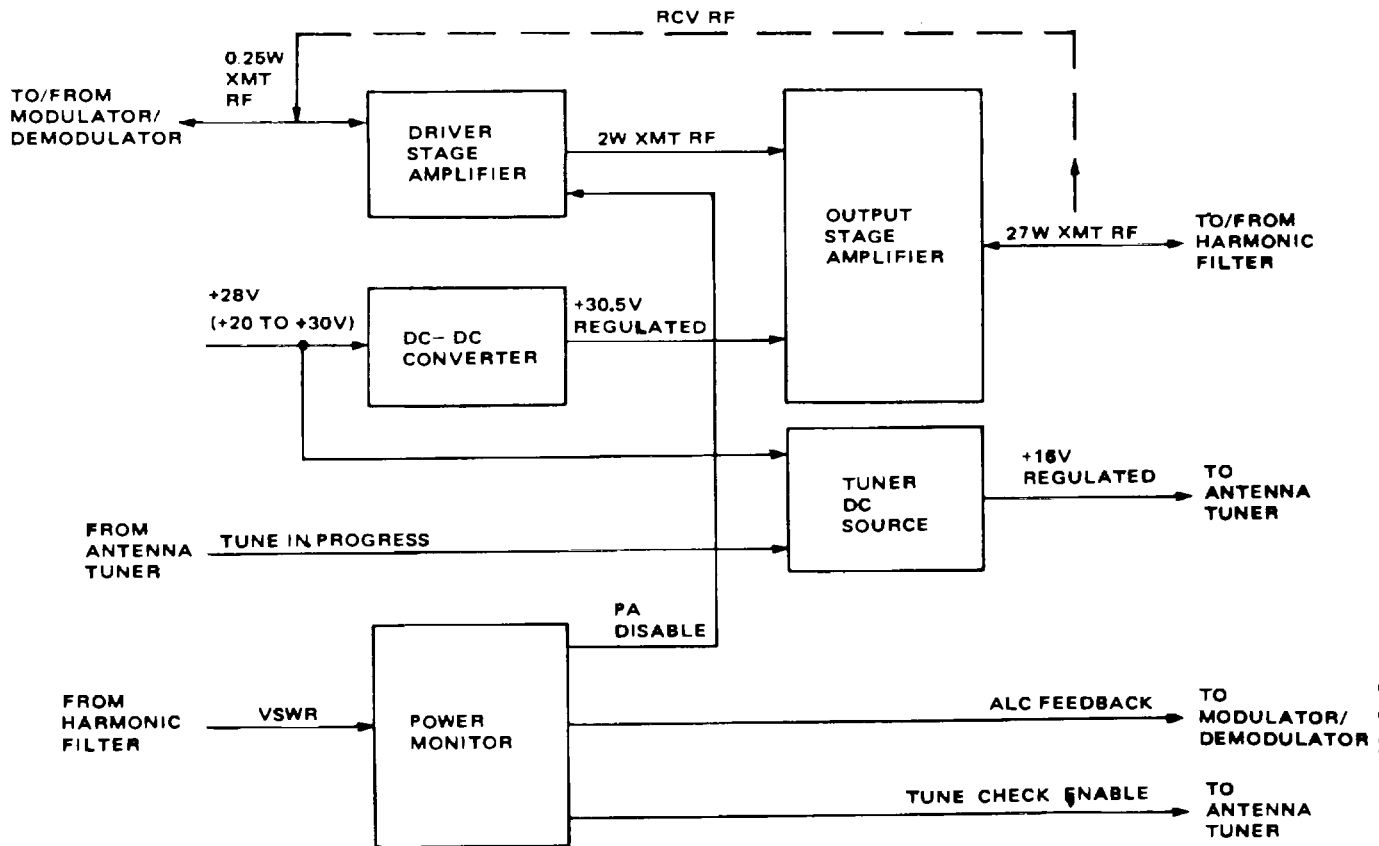

Figure 3-7. Power Amplifier Block Diagram
**3-35 POWER AMPLIFIER (Figure 3-7)** The power amplifier boosts the 0.30-watt output from the modulator/demodulator to provide 20-watt (normal) rf power at the antenna. The Xmt RF is preamplified to 2 watts in t he output stage. It is then a amplified to about 27 watts in t he output stage. (About 7 watts is lost in the filter and antenna tuner. ) The DC-DC converter provides the +30.5v Regulated voltage for the output stage. The tuner dc source generates +16v Regulated for use by the antenna tuner during impedance matching . This is triggered by the Tune In Progress signal from t he antenna tuner. The tuner dc source compensates for changes in battery v outage and temperature. The power monitor circuits use the vswr signal from the harmonic filer to protect the power amplifier. If the antenna is badly matched to the radio set power reflects back at the power reflects back at the power amplifier. This could cause damage. When a poor match occurs, the power monitor disables the driver tuning (Tune Check Enable) and sends ALC Feedback signal to the modulator/demodulator. The ALC controls the rf power output level of the receiver/exciter in transmit operation.